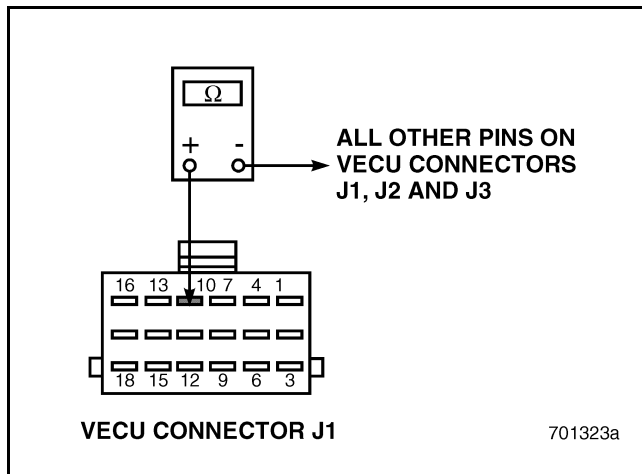

Figure 694
4. Check for continuity between VECU connector J1 pin 10 and all other pins on VECU connectors J1, J2 and J3 (see Figure 694).